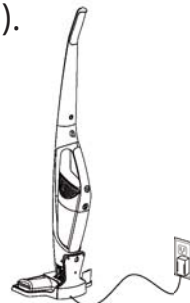

Fig.6
- Plug the adapter into a wall socket (Fig.6).